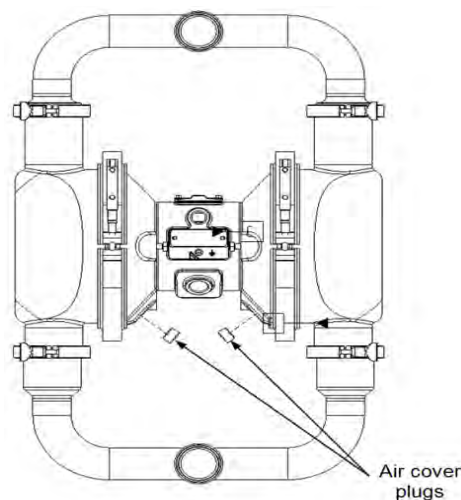

FIG. 2. Air Cover Plugs on Typical Pump
3. Remove plugs from the pump air covers, if plugs are present. See FIG. 2.
4. Remove plugs from the pump air covers, if plugs are present. See FIG. 2.